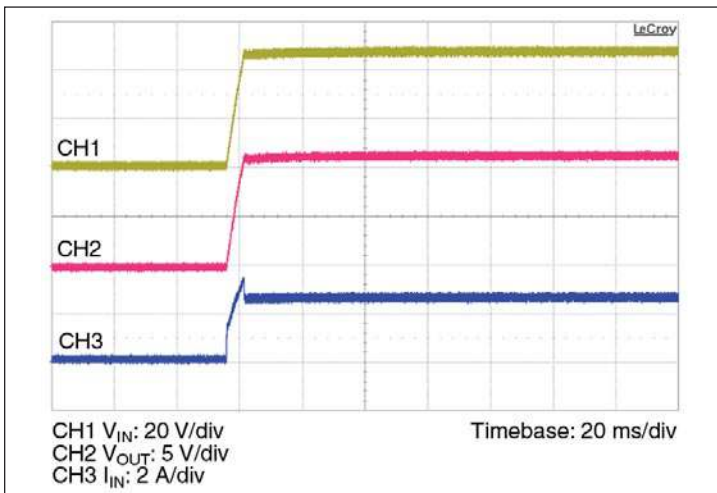

Figure 13 — Start up from application of V_{IN} ; VC pre-applied $C_{OUT} = 500 \mu\text{F}$
- **Normal Operation (VC applied prior to V_{IN}):** In this case the controller is active prior to ramping the input. When the input voltage is applied, the VTM output voltage will track the input (See Figure 13). The inrush current is determined by the input voltage rate of rise and output capacitance. If the VC voltage is removed prior to the input reaching 26 V, the VTM module may shut down.